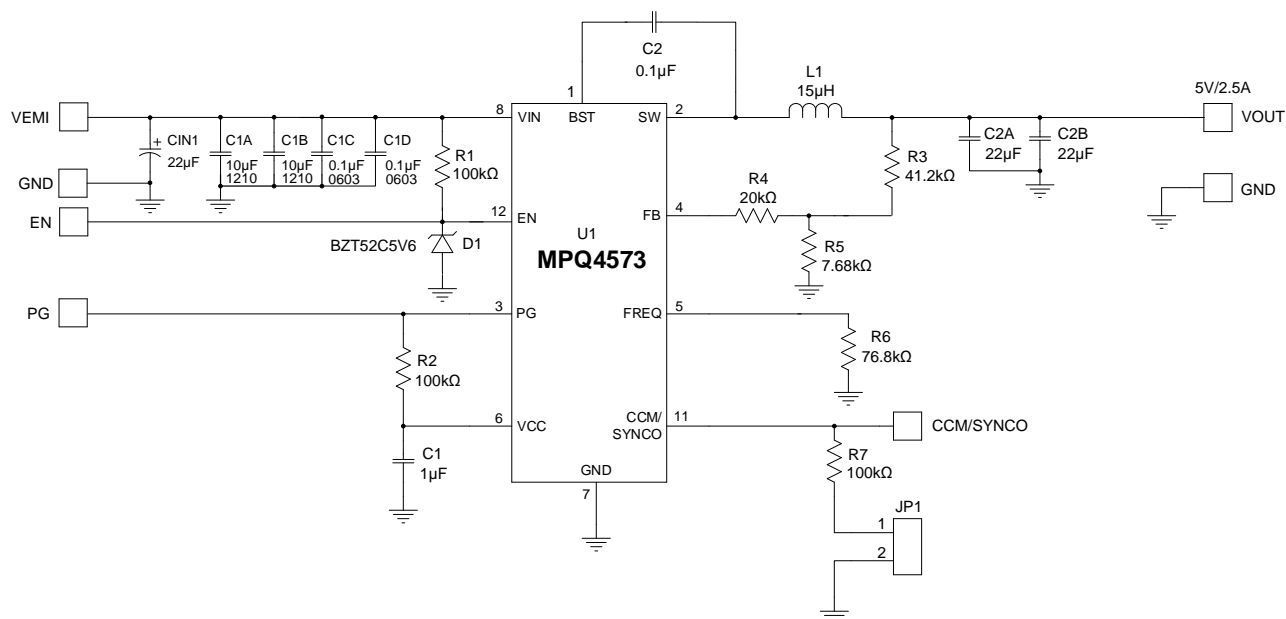

Figure 8: Typical Application Circuit
- 10) The recommended PCB layout is based on Figure 8 in the Typical Application Circuits section on page 31.